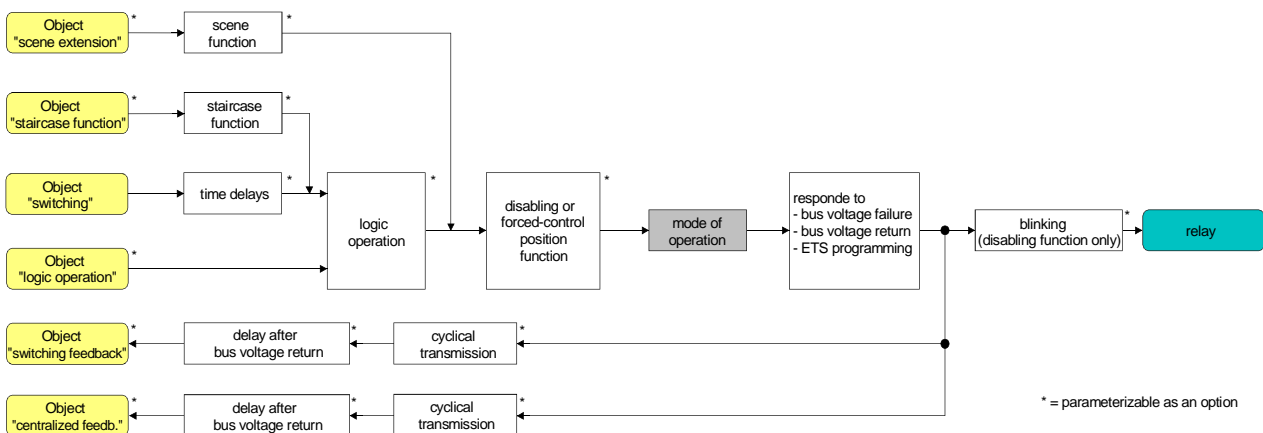

Fig. 6: Functional diagram "Mode of operation"
1. The logic switching state ("on - 1" or "off - 0") is set by the communication object "Switching" and influenced by the functions that can be optionally activated (e.g. timing/staircase functions, logic operations, disabling/forced-control position functions, scenes – cf. Fig. 6).